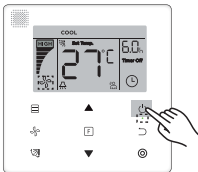

Figure 6.1
- 1) Press  (ON/OFF) button, and the Operating Indicator "●" on the wired controller will light up, while the ON/OFF icon "" of the indoor unit on the display will spin to indicate that the indoor unit has started running. (see Figure 6.1)